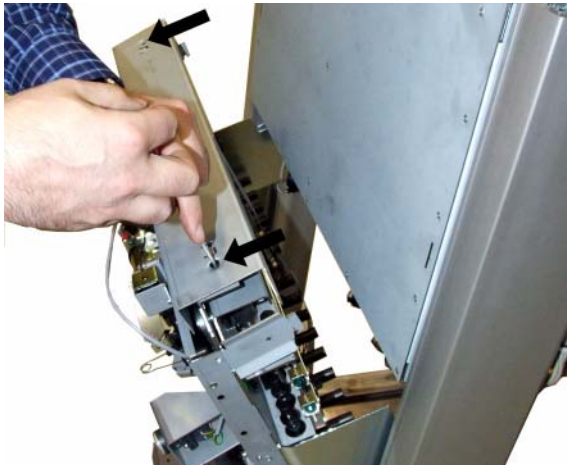

Figure 79: The cover of the motion plate is fastened with two screws (arrows).
16. Remove the cover from the top of the dispensing bar, see figure 79.